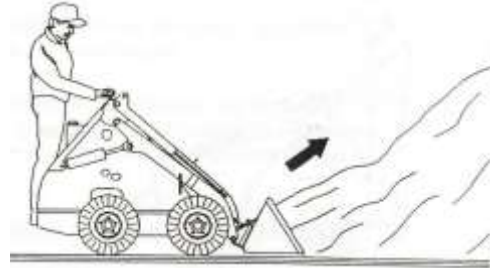

Figure 11
2. As soon as the bucket is full, tilt bucket back and back away from the pile, as shown in Figure 11 and 12.